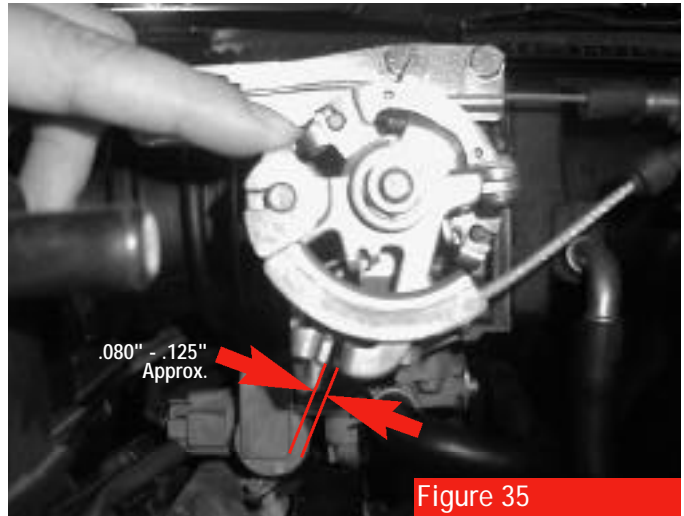
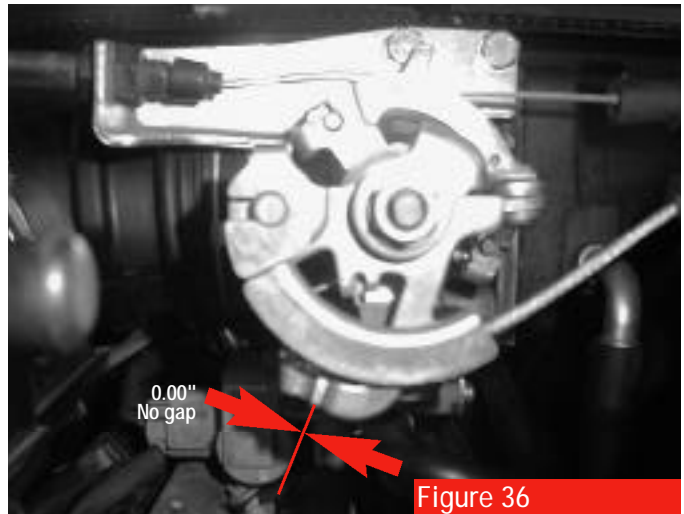

Figure 35
Figure 36
11. Proper throttle cable tension can be accomplished by viewing Figures 35 & 36. With a light but firm pressure you will be able to hear a distinctive "click" when pressing down (see figure 35). Release finger pressure and you should hear another "click" as bracket meets bracket (figure 36).